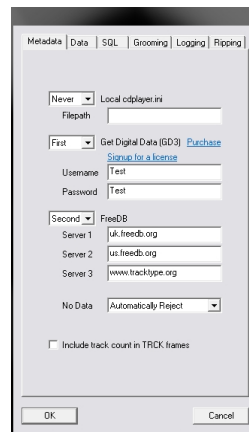

Figure 3.0 – Preferences Dialog Box
1. Open the Ripstation software and on the main screen click the Preferences icon. The dialog box shown in figure 3.0 opens.